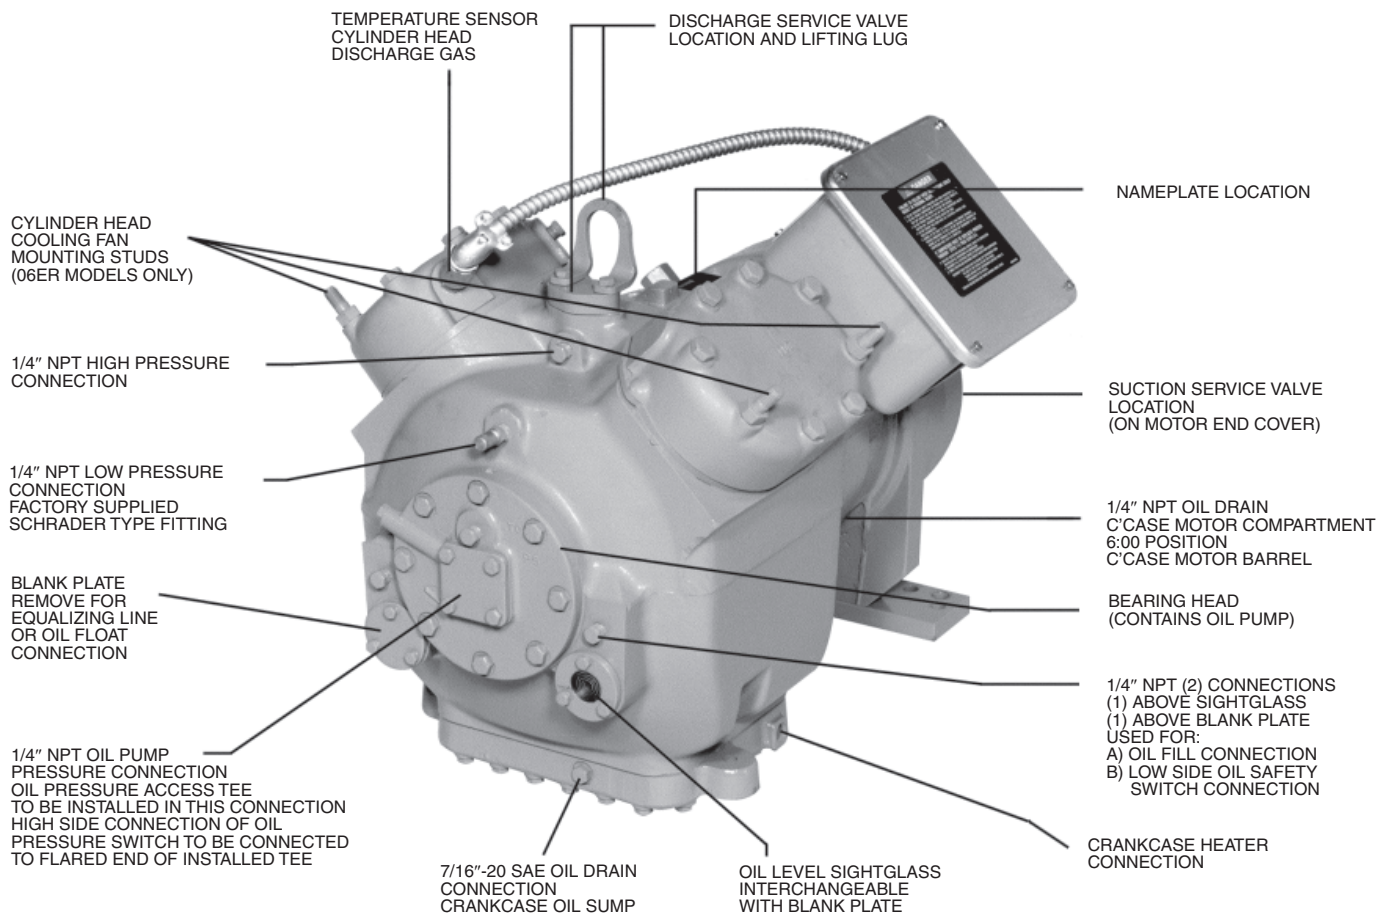

Figure 1
2. Do not remove any compressor bolts or fittings until factory-supplied holding charge has been relieved. Exhaust holding charge pressure through low-pressure connection (shown in Figs. 1 & 2) by removing the connection cap and depressing the internal disc.
Relieve holding charge by removing the cap on the low pressure connection fitting and depressing the internal disc. See Figs. 1 & 2 for applicable low pressure connection fitting location.
2. To add oil: Relieve internal crankcase pressure, isolate crankcase, and add oil through the oil fill connection (see Figs. 1 & 2). To remove excess oil: Reduce internal crankcase pressure to 2 psig (1.15 bar), isolate crankcase then loosen the oil drain plug allowing oil to seep out past the threads of the plug.
1. All Carlyle 06E compressors are provided with connections for an oil safety switch. The use of an oil safety switch can help prevent compressor failures when loss of lubrication or loss of compressor oil charge occur. The use of an oil safety switch is required as a condition of warranty for those 06E compressors which are applied on systems in which two or more 06E compressors are connected in parallel. On units in which single 06E compressors are applied, the use of an oil pressure switch is recommended. See Figs. 1 and 2 for oil safety switch connections.
3. The oil safety switch *high side connection* is to be attached to the oil pressure access tee which is field installed in the oil pump pressure connection (see Figs. 1 and 2). The *low side connection* of the oil safety switch is connected to the oil sump compartment of the crankcase (above the sight glass). See compressor pictorials (Figs. 1 and 2) for proper locations.